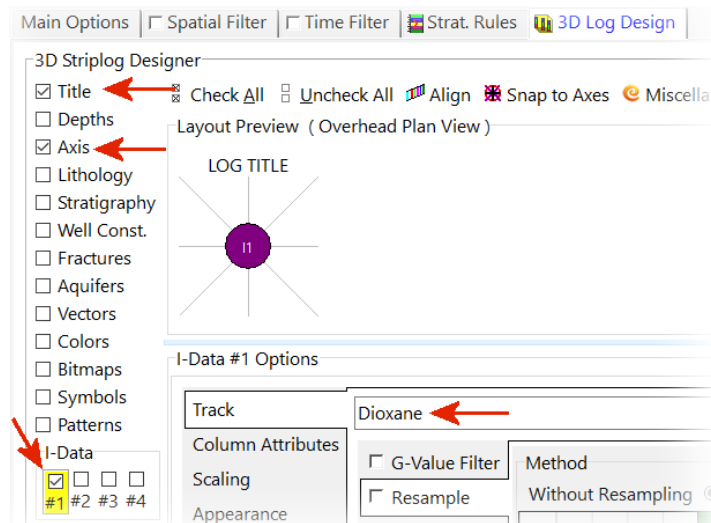

Figure 63
- Enable the *Title*, *Axis*, and *I-Data #1 Options* (Figure 63) and set the *I-Data #1 Track* to "Dioxane".